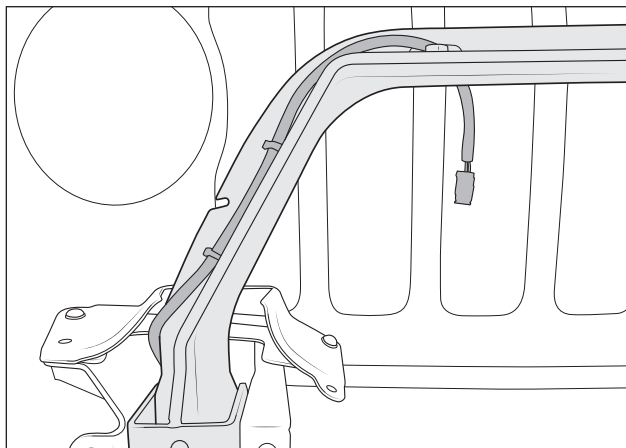

Figure 20
- A. If installing AEV offroad lights or camera relocation kit, route the wiring and sprayer hose, running them along the outside of the thick bracket on the hoop weldment. Use provided fur tree wire ties to retain the wiring and hose along the bracket. Make sure to leave enough slack to connect to mating components (fig. 20).